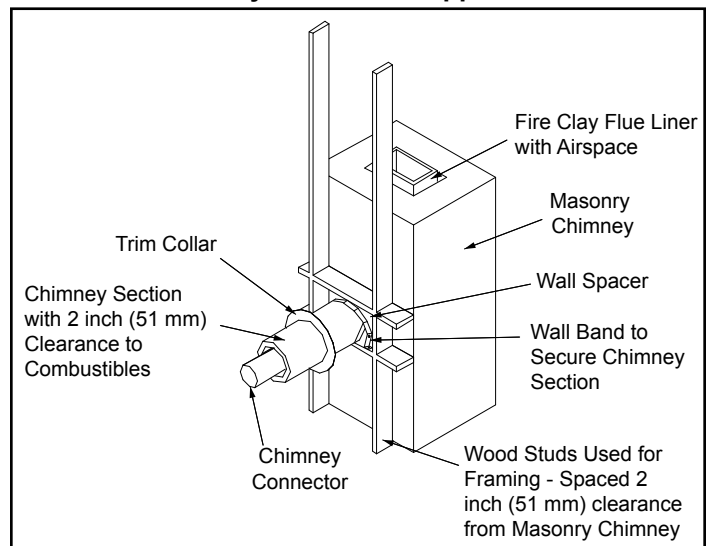

Figure 4.4
3. Construct a 17" x 17" (432 mm x 432 mm) outside dimension frame from 2 x 2 framing lumber to fit into wall opening. Inside opening of frame should be no less than 14" x 14" (356 mm x 356 mm), Figure 4.4. Attach the wall spacer to the chimney side of the frame.